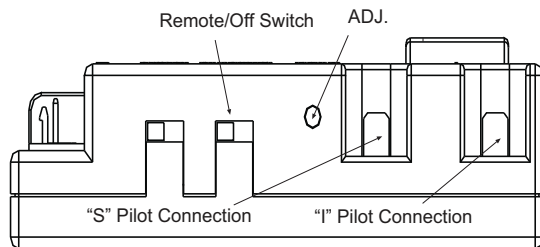

Figure 26 - Gas Module Right Side
1. There is a switch located on the right side of the module that reads REMOTE/OFF (**Figure 26**).